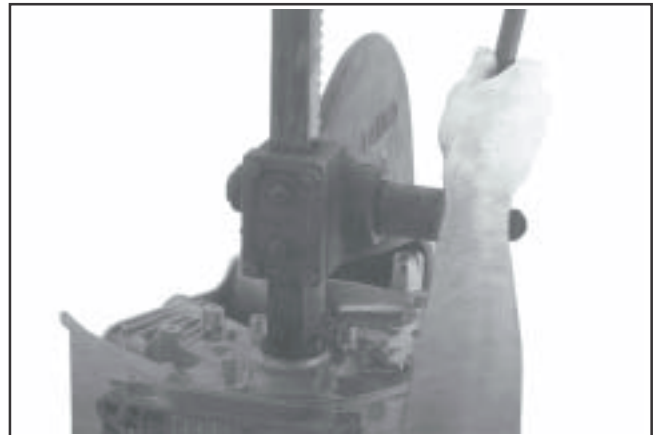

Figure 9-90. Removing Main Bearing with Press.
2. Remove the front main bearing from the crankcase using an arbor press. See Figure 9-90.